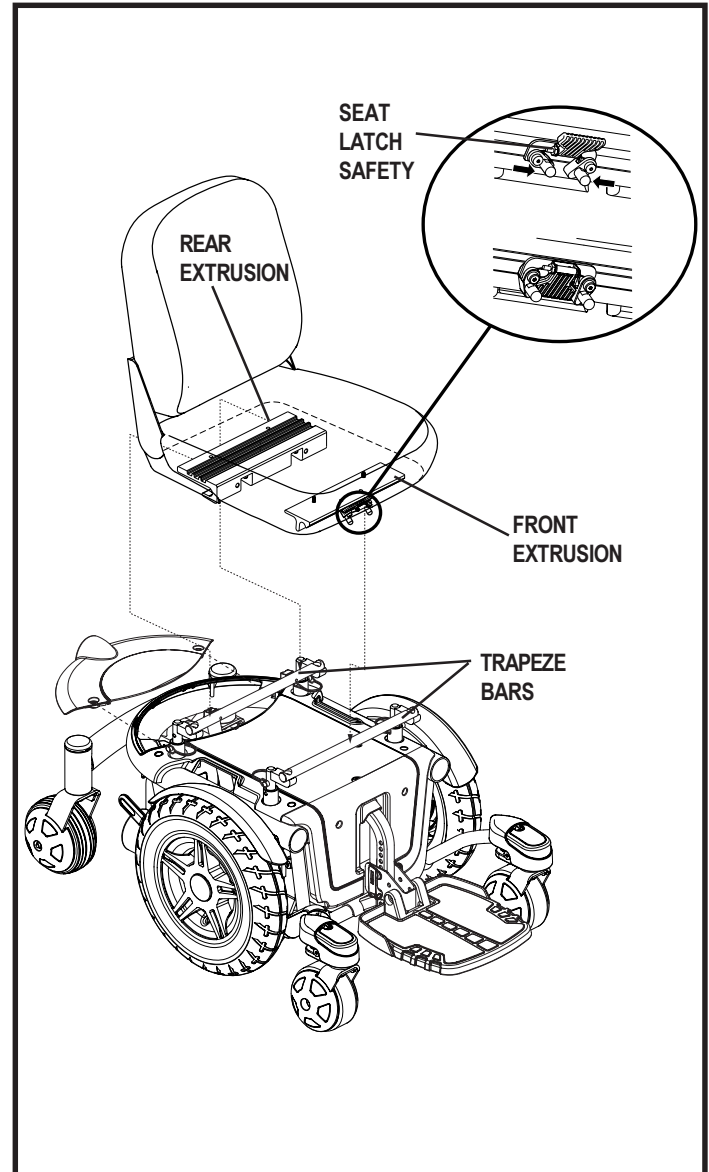

Figure 11. Universal Mounting System (Shown Without Armrests for Clarity)
It may be necessary to install the seat either prior to initial operation or after transporting your power chair. If your power chair is equipped with a specialty seating system, refer to the information provided in separate manuals. The medium- and high-back seats are attached to the power base with the Universal Mounting System (UMS). The UMS consists of universal parts that may be attached to the seat, regardless of seat width or seat depth. The two main components are aluminum extrusions mounted to the seat base. These extrusions attach to a pair of trapeze bars that are mounted to the power base. See figure 11.
2. Tilt the seat back and slide the rear extrusion onto the rear trapeze bar. See figure 11.
4. Flip up the seat latch safety. See figure 11.